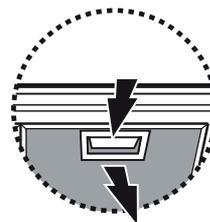
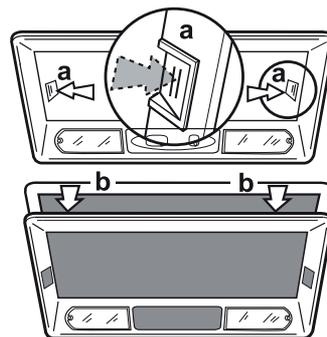

Fig. 1
Fig. 2
2. Remove the dirty grease filter by pulling the handle first backwards and then downwards (Fig. 1).
2. Remove the grease filter (Fig. 1) and the grease filter surround (Fig. 2 - sequence a-b).